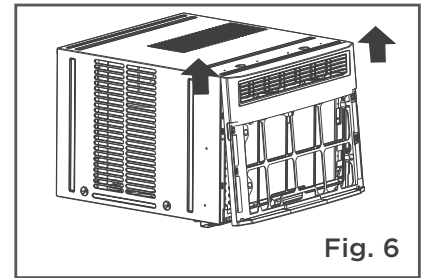

Fig. 6
5. Gently lift front off unit and place to one side (see Fig. 6).